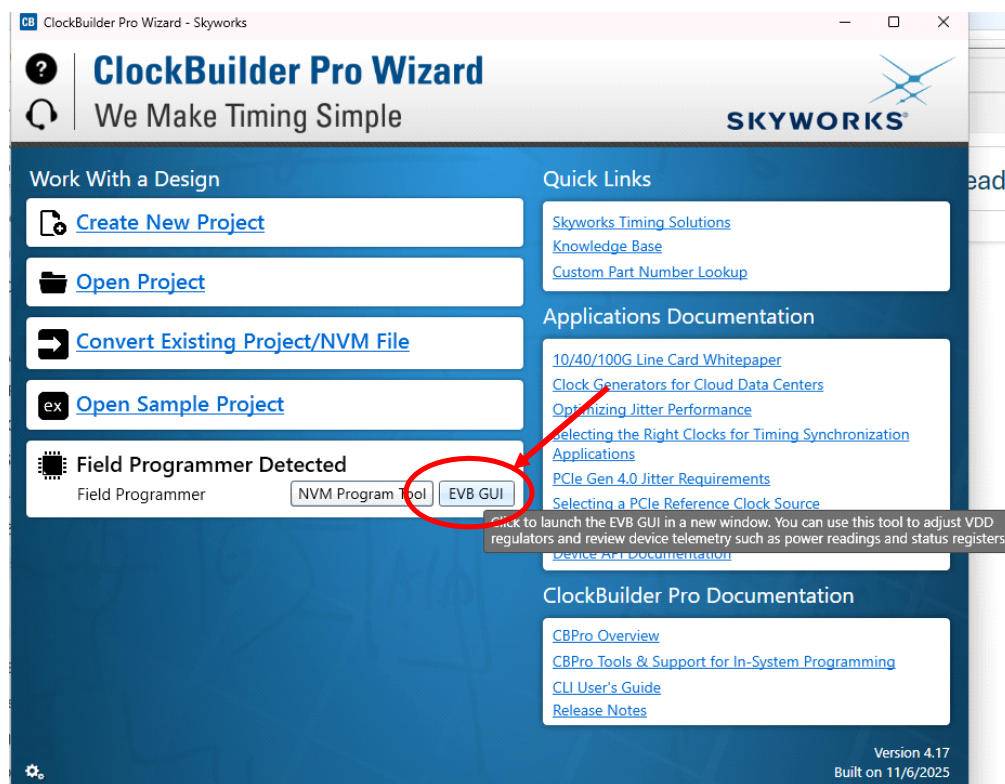

Figure 42. EVB GUI Button
3. When the CBPro Wizard opens, click on the EVB GUI button shown in Figure 42: